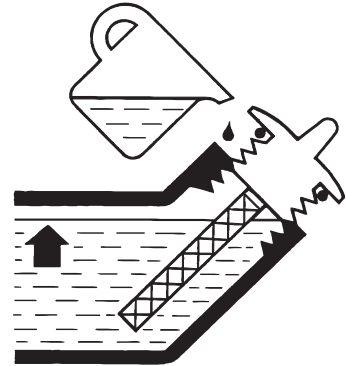

Figure 4: Engine Oil Correct Level
4. Do not overfill, if oil level is too high, oil will drain out through the fill plug. See correct oil level in Figure 4.
- The engine is filled with engine oil (see Figure 4: Engine Oil Correct Level on page 36).